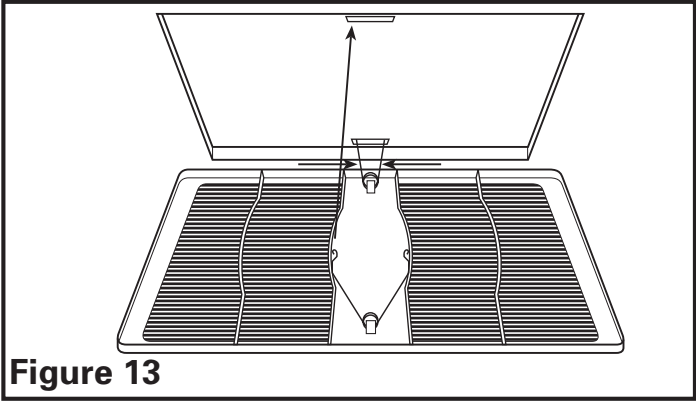

Figure 13
4. Install the grill by squeezing the two ends of the springs together and installing them up into the slots on the fan's housing. Push the grill up into position (Figure 13).